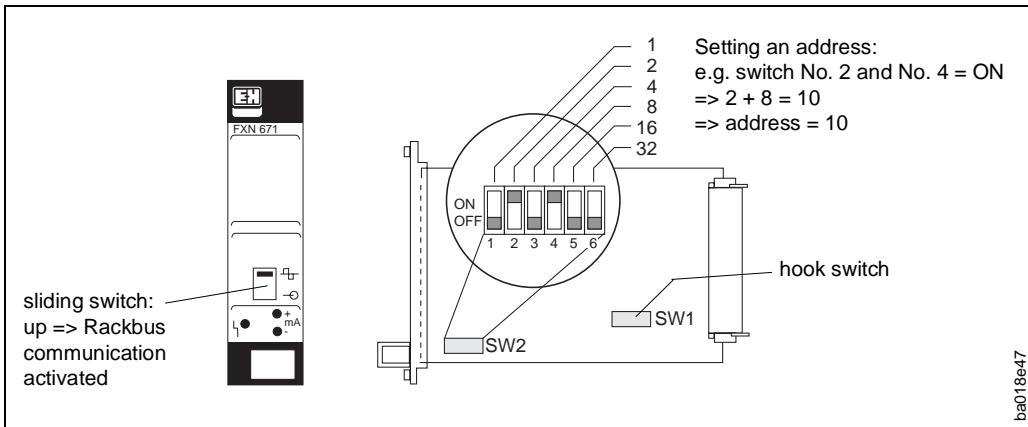

Fig. 31:
- Move the slide switch upwards on the FXN 671 front panel (Fig. 31) => Rackbus communication activated. Prowirl 70 local programming is disabled as long as the slide on the FXN 671 front panel is in the upper position.
- Hook switch SW1 open (Fig. 31) => Resistor 250 Ω connected.
- Set Rackbus address using DIP switches SW2 (Fig. 31) => An address between 0 and 63 is set.